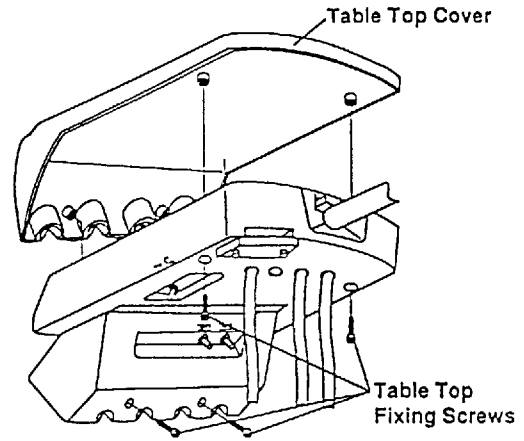

Fig. 3-5 Removing Table Top Cover
B. 3-Way Syringe Flow Control Screws (Fig.3-5)
- (3) Removing Table Top (Fig.3-5)